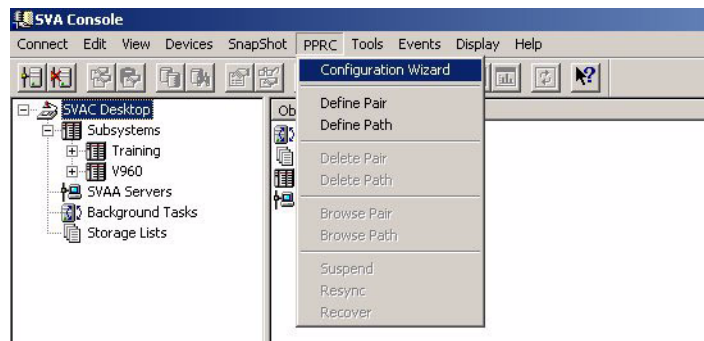

Figure 13 Selecting Configuration Wizard
- From the selection menu that appears, left-click on “Configuration Wizard” as shown in Figure 13.